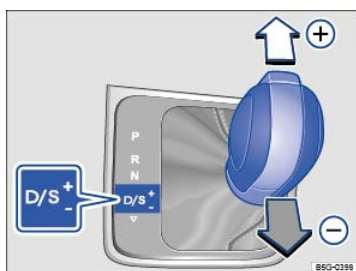

Fig. 117 Selector lever in Tiptronic position.
- Briefly push the selector lever forward ⊕ to upshift into a higher gear or backward ⊖ to downshift into a lower gear ⇒ Fig. 117.